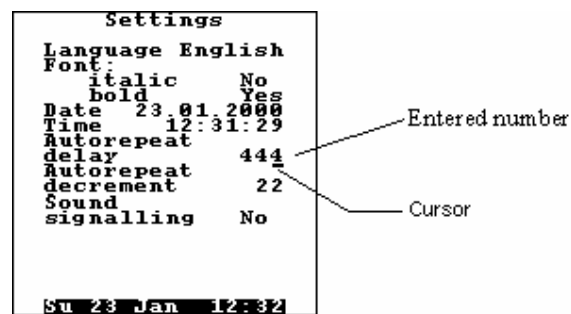

Fig. 7
- Press and release the SHIFT key. The number color changes to normal and the cursor under the less significant digit appears (Fig. 7).